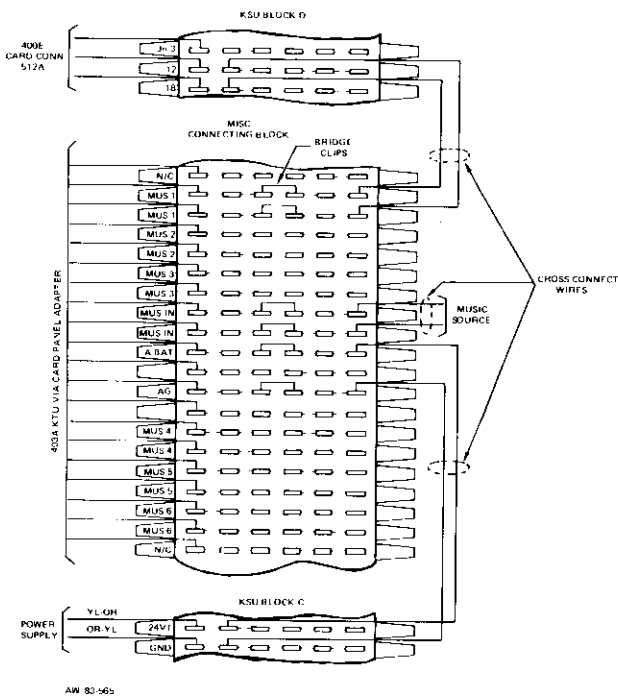

Figure 16: Connecting Details, Music-On-Hold
- (b) On KSU connecting block C, connect terminal -24VT(C33) to the terminal across from the A BAT terminal on the MISC connecting block. See Figure 16 for details.